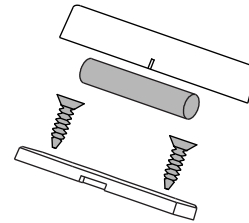

Figure 3: Standard Installation
3. Use the provided #4 screws to mount the base. See Figure 3.